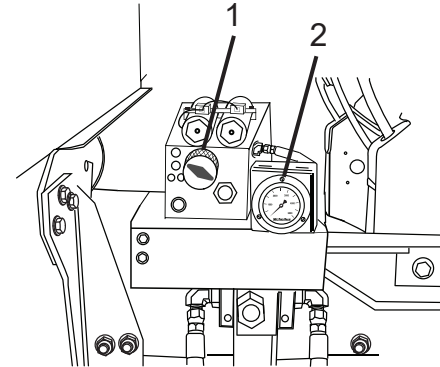

Figure 1
4. Turn the PRV knob (Figure 1, Item 1) all the way counterclockwise to minimize the pressure applied to the Bridgemaster axle when the drum is empty. Pressure will be displayed on the gauge (Figure 1 Item 2).